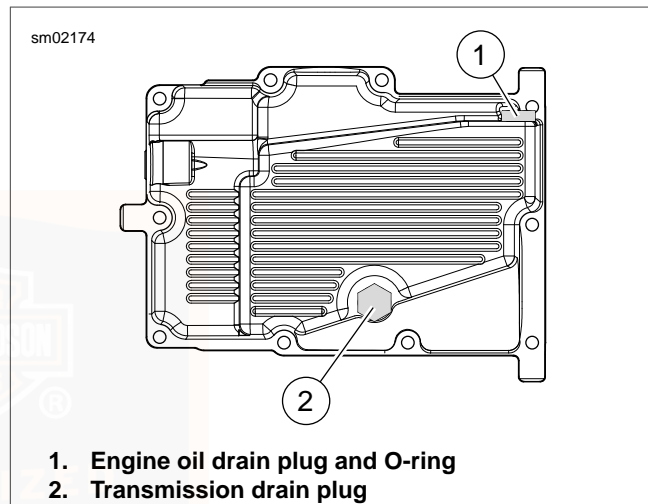

Figure 29. Oil Pan
2. See Figure 29. Remove transmission drain plug and drain lubricant into a suitable container.